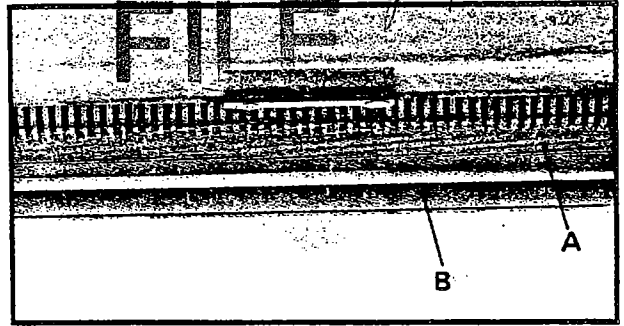

Fig. 24
The infeed roll (A) and outfeed roll (B) Fig. 24, are those parts of your planer that feed the stock while it is being planed. The feed rolls (A) and (B) are under spring tension and this tension must be sufficient to feed the stock uniformly through the planer without slipping but should not be too tight that it causes damage to the board. The tension should be equal at both ends of each roll.